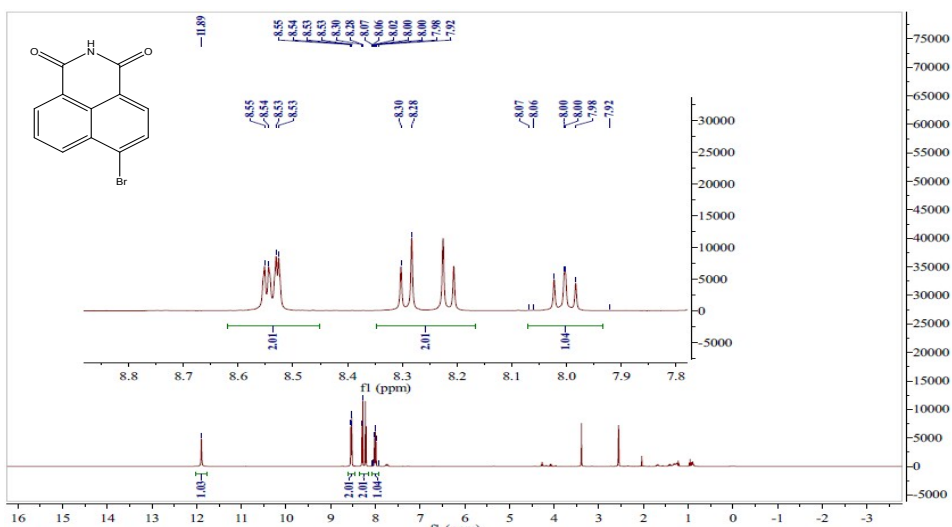
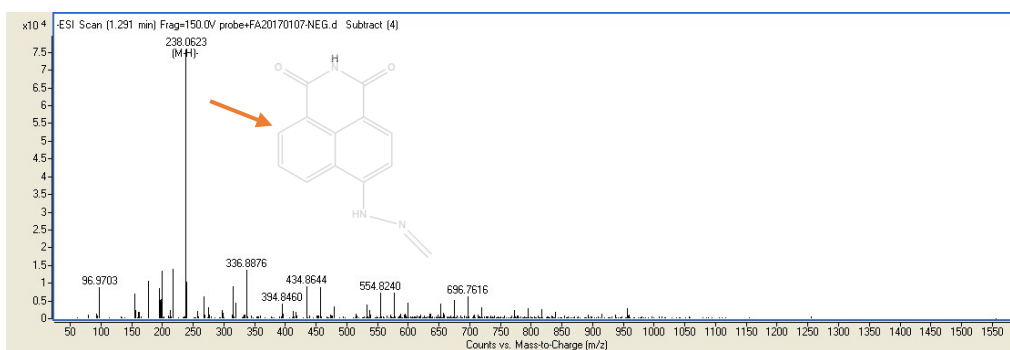

Fig. S3 ¹H NMR spectrum of the compound 2.
Fig. S10 HR-MS spectrum of the product of NaPFA.
6. Fig. S3-Fig. S10. Spectra of NMR and HRMS-----	S5-S7